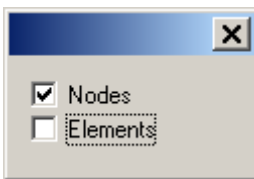

Figure 1.21.12 Dialog box to define selection option
⇒ In the dialog box (see Fig.1.21.12), clear the **Elements** check box.
- ⇒ In the still open dialog box ((see Fig.1.21.12), do the following: